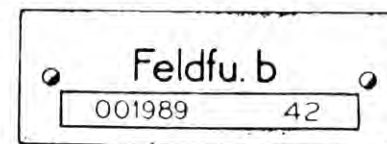

Figure 1. Nameplate of German radio set **Feldfu. b**.
1. **DESCRIPTION.** The German radio sets **Feldfunk-Sprecher b** and **Feldfunk-Sprecher c** (field radiotelephone b and field radiotelephone c)*, abbreviated **Feldfu. b** and **Feldfu. c**, may hereafter be referred to as the "set." The nameplate of the **Feldfu. b** is shown in figure 1. The set is a compact, self-contained, v-h-f portable transceiver, designed for voice operation, and can be used in nets with American amplitude-modulated sets within the frequency and distance range. The set is housed with all accessories in a molded plastic case, which is ribbed for additional strength. It can be carried and operated by one man so that both his hands are free, as shown in figure 2. The accessories supplied with the set are: